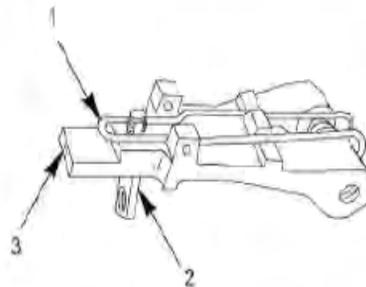
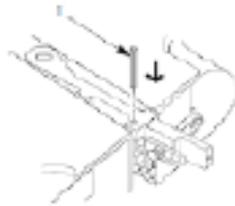
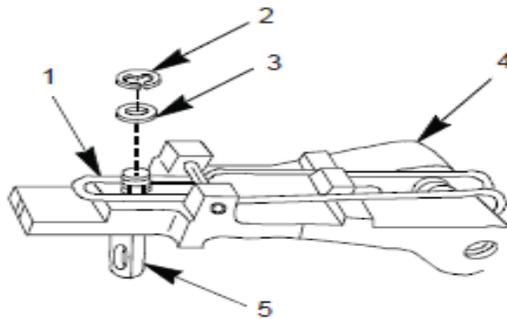

Figure 32. Screw Peep Sight, Sight Leaf .
Figure 33.. Peep Sight, Sight Leaf, Spring
Figure 34. Washer, Retaining Clip.
2. Screw peep sight (Figure 32, Item 2), into sight leaf (Figure 34, Item 3) until threads on peep sight (Figure 32, Item 2) are even with the number of threads exposed before removal. Install lock spring (Figure 32, Item 1) onto sight leaf (Figure 33, Item 1) and peep sight (Figure 32, Item 2). With lock spring (Figure 32, Item 1) installed, position in vise with protective jaws and drive in new spring pin (Figure 32, Item 2) flush.
3. Install washer (Figure 34, Item 3) and new retaining clip (Figure 34, Item 2) on end of peep sight (Figure 34, Item 5).